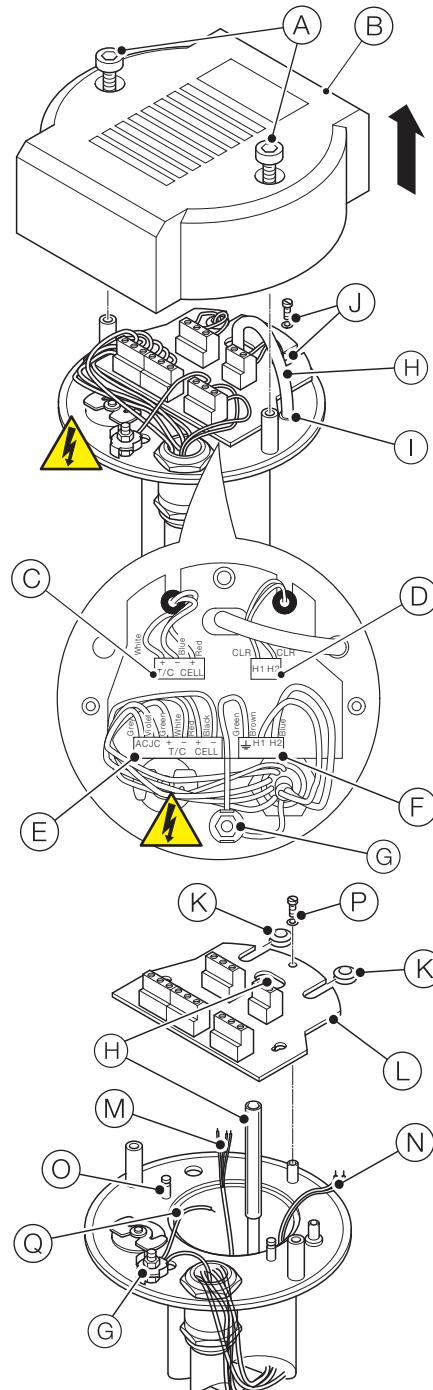

Fig. 5.2 Replacing the terminal PCB assembly
Referring to Fig. 5.2:
The earth wires (drain wires and clamp washer) must be connected at the earth stud (item (G) Fig. 5.2, page 3) and the M4 earth stud nut must be secured and tight before switching mains power on.
Green (internal earth to earth stud) Drain wires (twisted pair from cable) connected at sensor earth stud	The internal earth wire (including clamp washer must be secured at the earth stud and connected at the (green) earth connection of terminal (F) – see Fig. 5.2, page 3
\*Connections to terminals (E) and (F) – Fig. 5.2, page 3